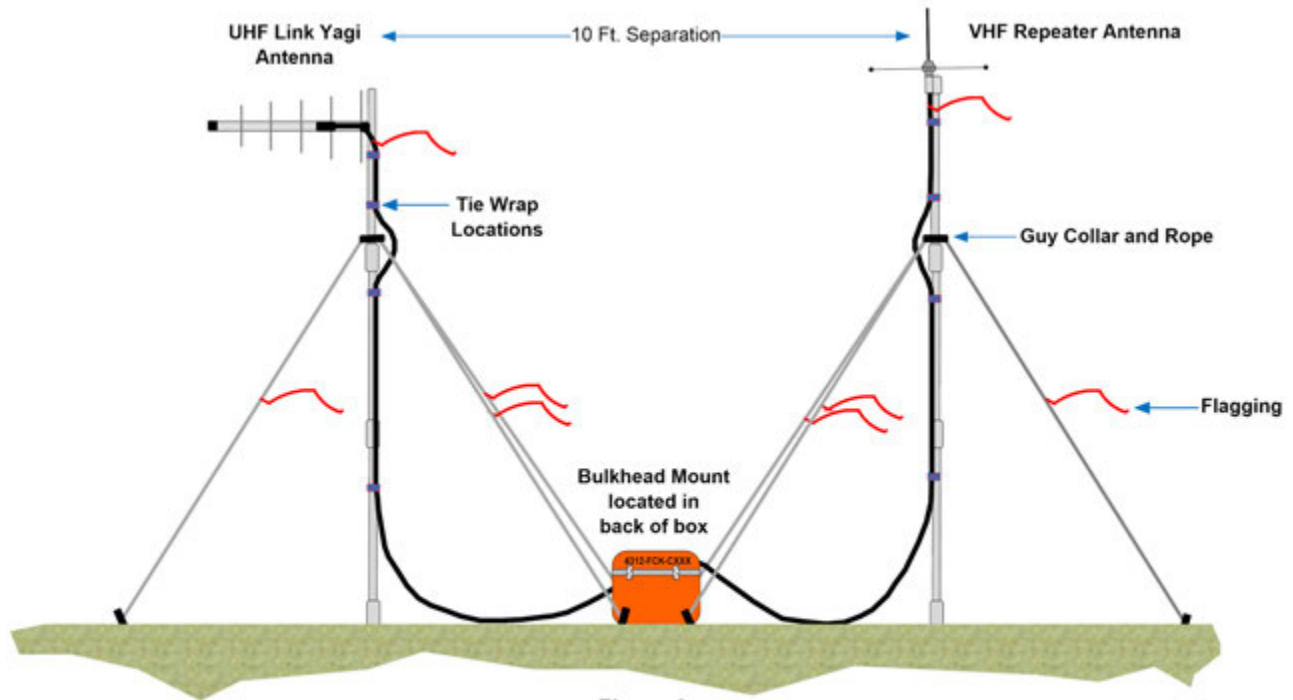

Figure 3:
1. **Antenna Installation** (See Figure 3)
2. **Coaxial Cable** (See Figure 3)